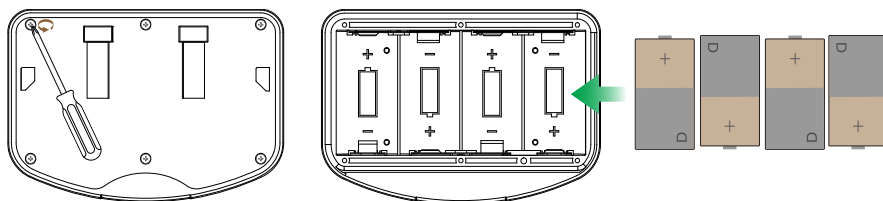

Figure 1
The spotlight requires four D size batteries (not supplied). For reliable, long-lasting performance, use only high quality alkaline batteries. To install batteries (see **Figure 1**):
1. Turn the front cover of the spotlight counter-clockwise to the unlock position ▲ (see **Figure 1** on previous page) so it is no longer powered. Leave the batteries inside the battery compartment.